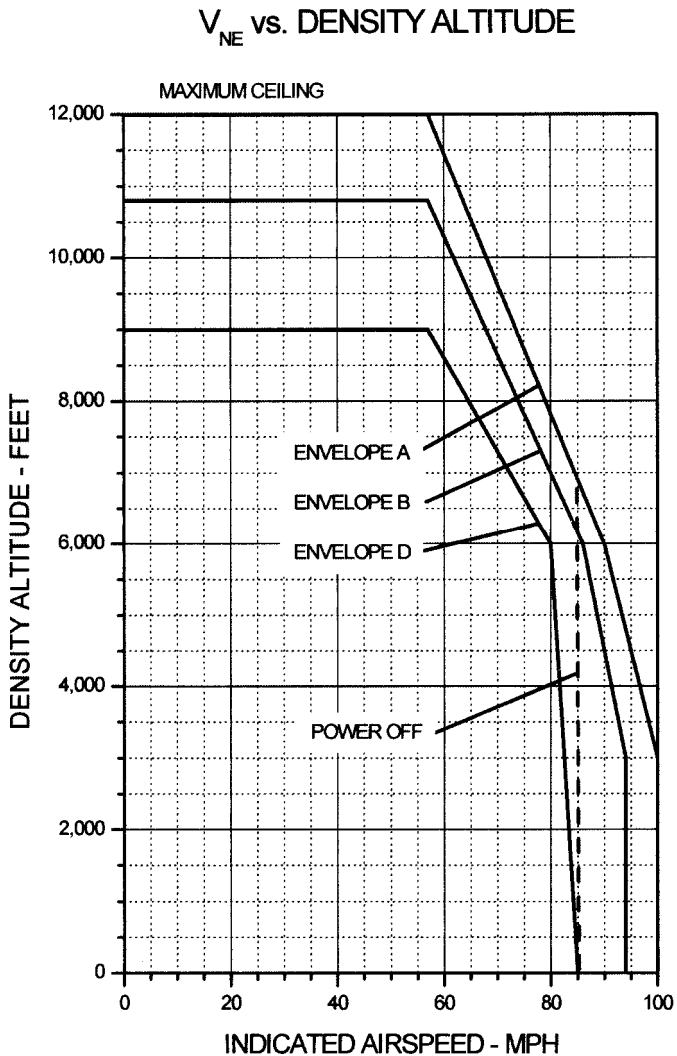
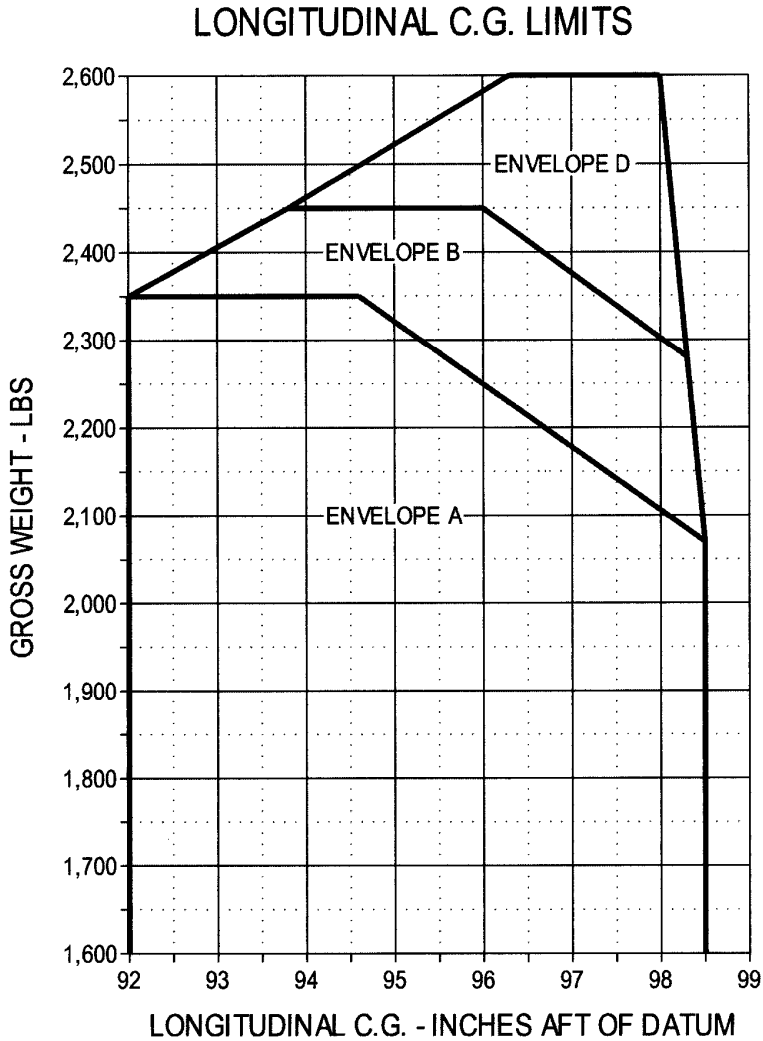

Figure 10-2-1. V_{NE} vs. Density Altitude
Figure 10-2-3. Longitudinal C.G. Limits
- a. Envelope A V_{NE} 100 MPH IAS from sea level density altitude (DA) to 3000 ft DA. For variations greater than 3000 ft DA, refer to placard and Figure 10-2-1.
- b. Envelope B V_{NE} 94 MPH IAS from SL to 3000 ft H_d . Refer to placard and Figure 10-2-1 for variations with altitude.
- c. Envelope D V_{NE} 85 MPH IAS at SL. Refer to placard and Figure 10-2-1 for variations with altitude.
1. Figure 10-2-1: V_{NE} vs. Density Altitude
- There are three gross weight/c.g. envelopes for this helicopter with floats installed. Refer to Figure 10-2-3. Each envelope corresponds to one of three V_{NE} /altitude envelopes as described in Paragraph 10-2-4 of this supplement. Refer also Figure 10-2-1.